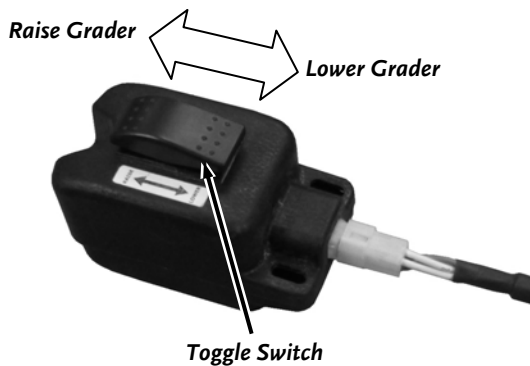

Figure 44
1. Push the Button on the Control Box at the "RAISE" position to lift the Grader fully off ground (Figure 44).